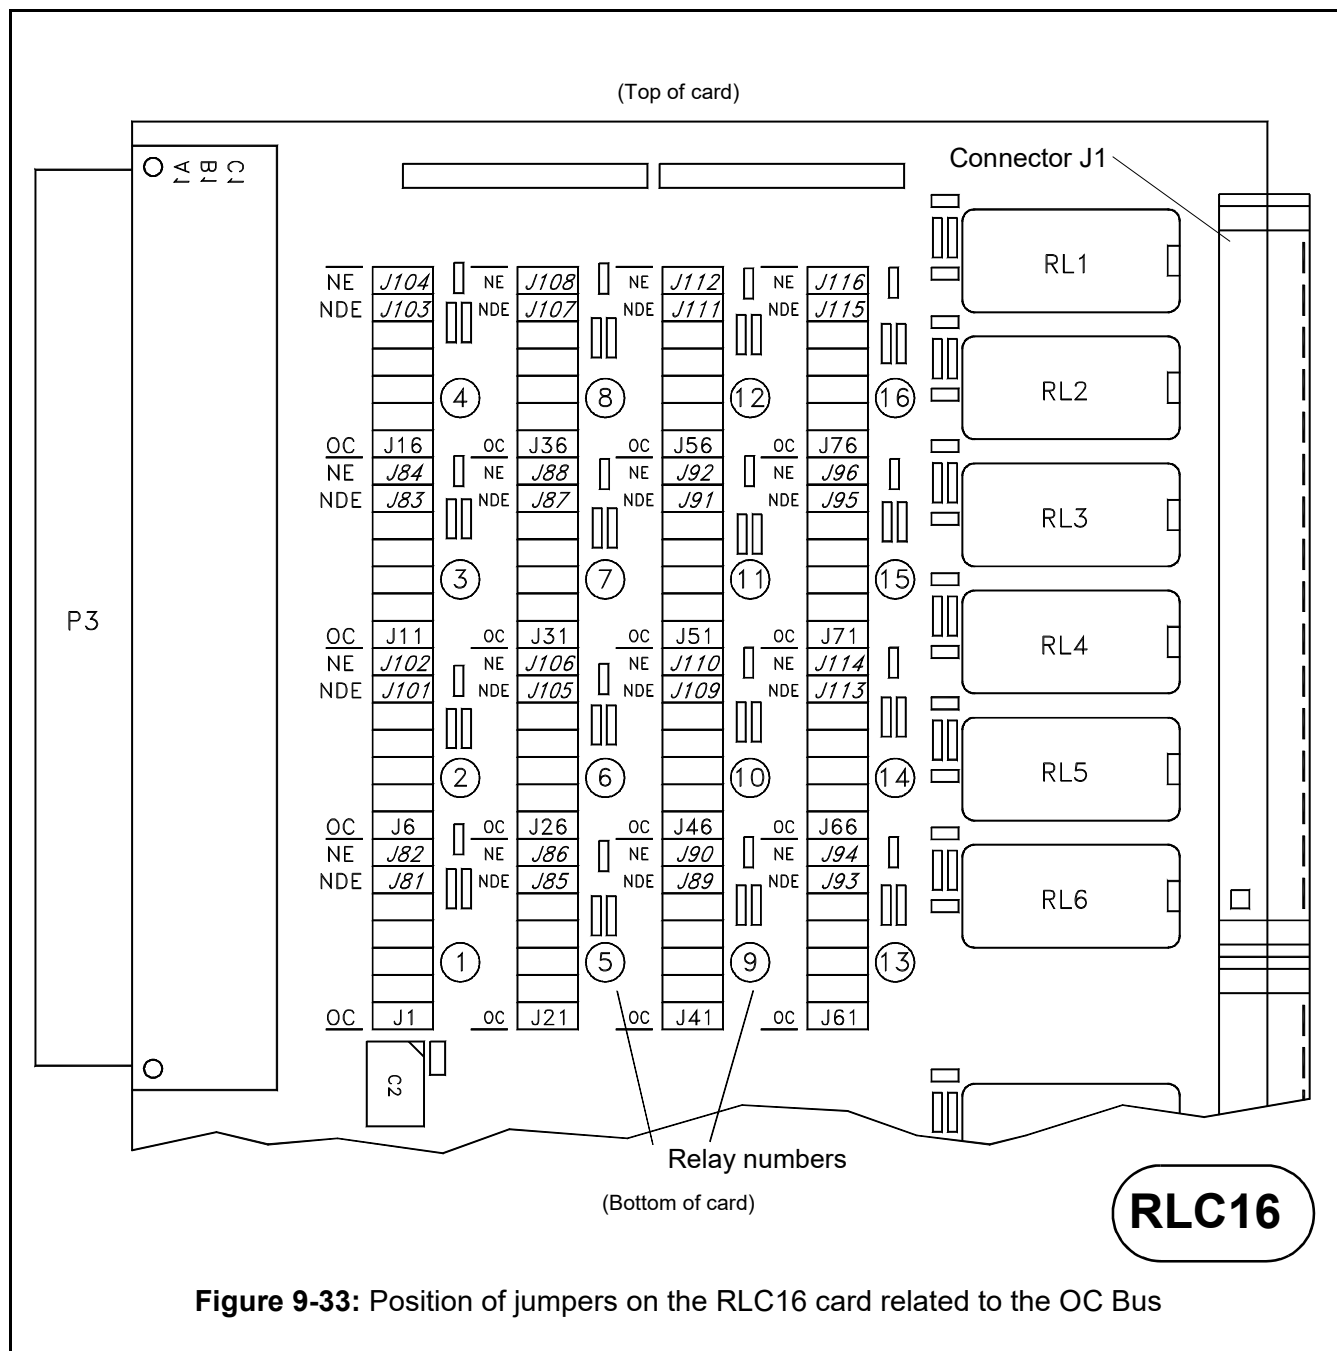

Figure 9-33: Position of jumpers on the RLC16 card related to the OC Bus
The attribution of a specific line on the OC Bus to a specific relay on the RLC16 is done by setting a jumper on the RLC16 card. Additional jumpers allow the selection of relay normally energised (NE) or normally de-energised (NDE). The jumper settings are summarised in Table 9-7 and the position of the relevant jumpers on the RLC16 card is shown in Figure 9-33.